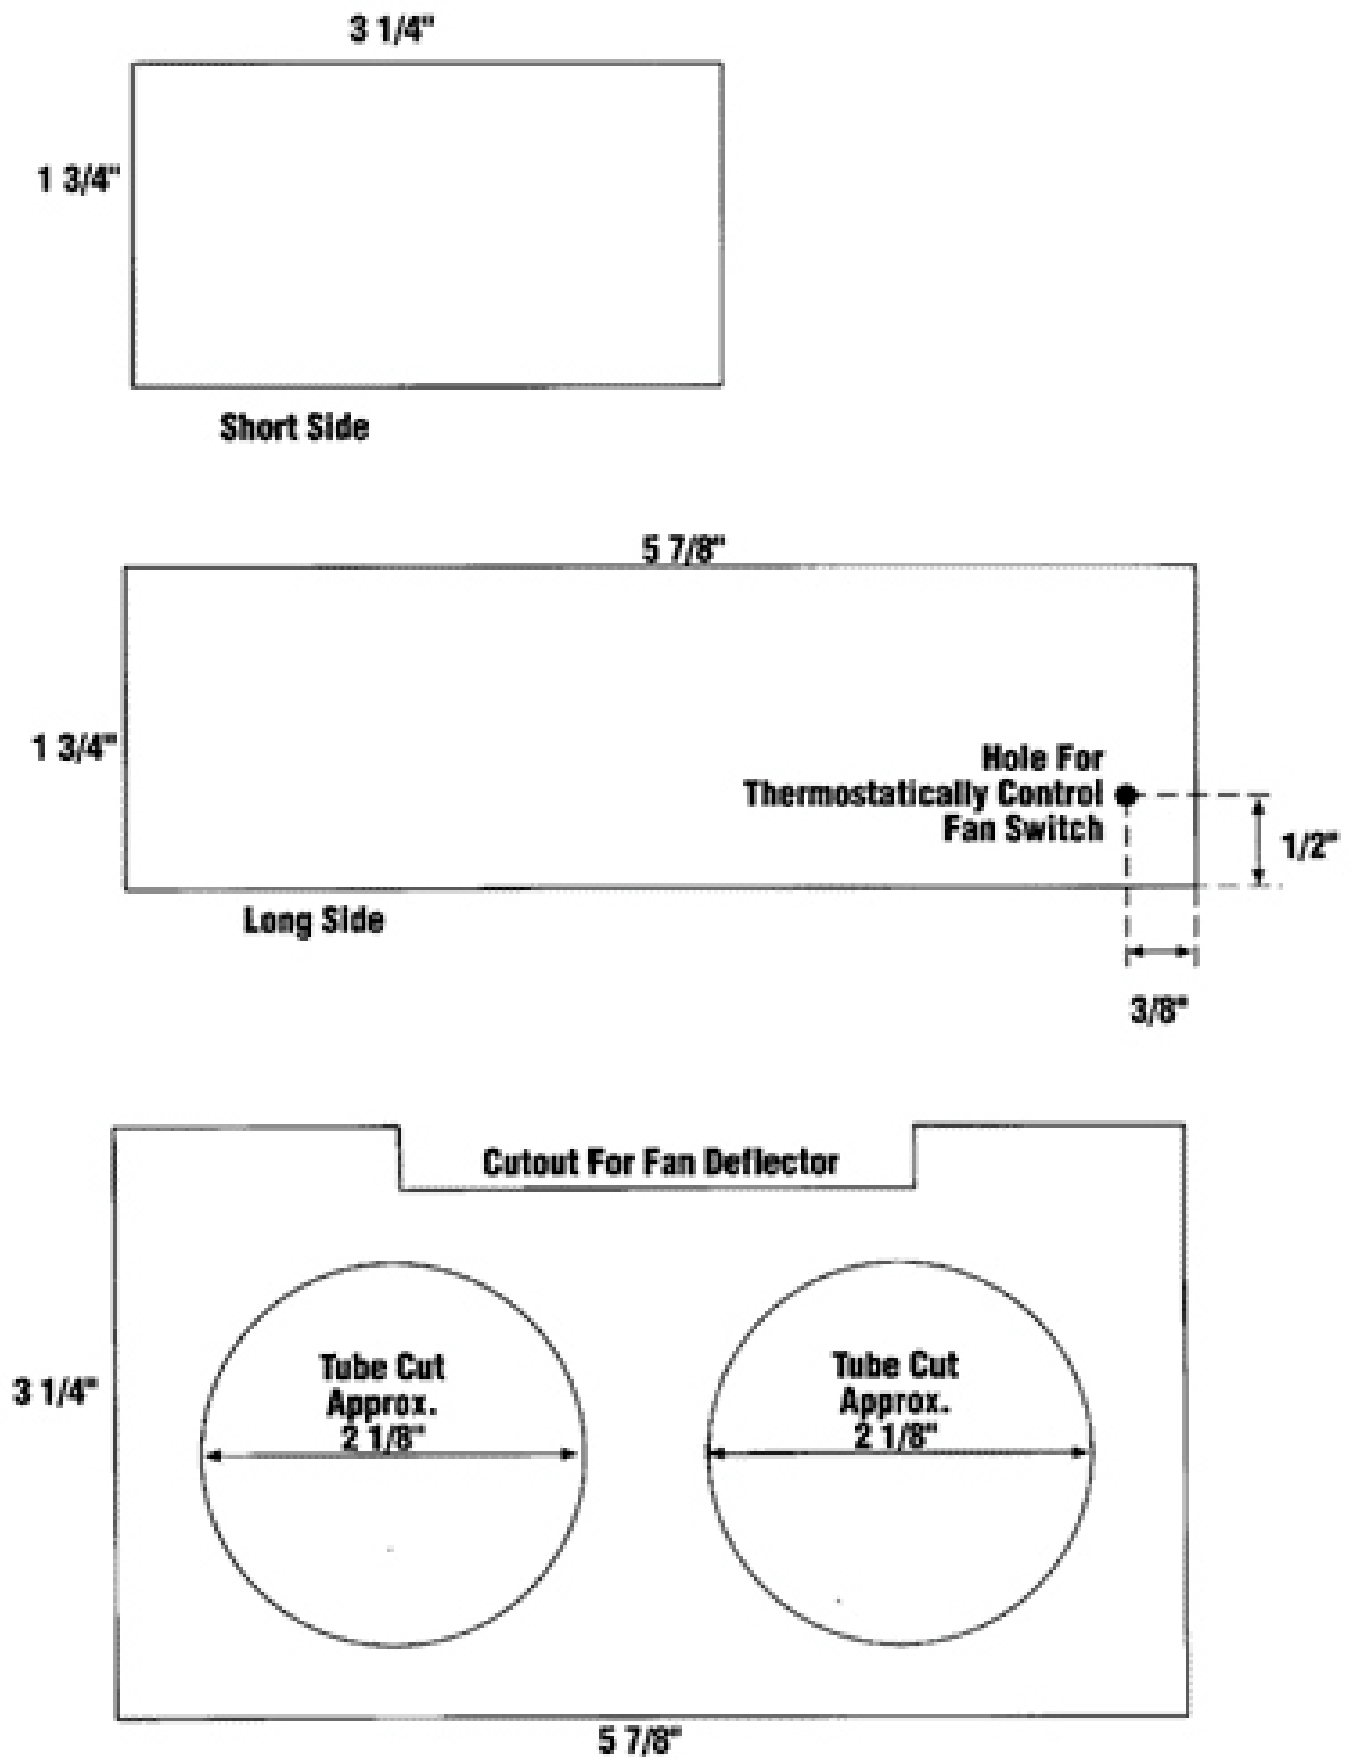

Fig 1. Air plenum parts fabrication
Mount the new Svetlana SK2A sockets in the original tube socket holes using the original hardware. The keys on the center grid pins should face each other. Using G-19 fiberglass epoxy board or masonite (I used the latter), cut two pieces to the approximate dimensions of Figure 1. Leave an extra 1/8 inch in each dimension in order to file them to fit. I used a right-angle mending bracket at the corner between the two side panel pieces and made bottom brackets from soft aluminum strips about 1/2 inch wide. Make certain the height of the side panels plus the planned G-10 top cover are no higher than the top edge of the anode cooler and preferably 1/8 inch lower than the edge of the cooler of the 4CX400A. This is to assure air flow through the 4CX400A coolers. Mount the original fan thermostat on the longer side panel of the plenum. The position selected may be as shown in Figure 1. (The thermostat may not exist on some models.)
Cut a piece of G-10 to fit the top of the air plenum just fabricated (as shown in Figure 1). Locate the centers of the tubes and cut two holes in the G-10 to fit the anode cooler of the 4CX400As. Also, cut out a portion of the G-10 in front of the fan to accommodate the MLA-2500 air deflector as shown.
- Figure 1